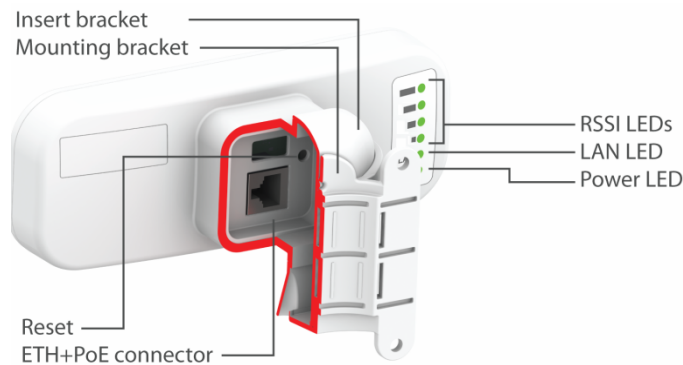

Figure 2 – Overview
The APC has 6 green LEDs located on the side panel: Power, LAN and 4 RSSI LEDs (refer at the *Figure 2 – Overview* for details). The various states of the LEDs indicate different connection operations as follows:
- **Reset button** (refer at the *Figure 2 – Overview*). Press and hold the Reset button using a pen or a paper clip for 1 second to reboot the device; press and hold the Reset button for more than 5 seconds to set the device to factory defaults.
- **TFTP recovery mode**. Power-off the unit, then press and hold the Reset button (refer at the *Figure 2 – Overview*), power-on the unit and hold Reset button for more than 5 seconds – the APC unit will boot in recovery mode.